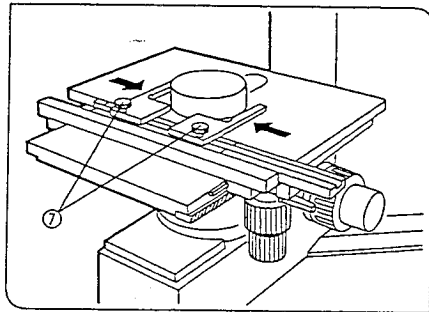

Fig. 40
After loosening the specimen holder clamping screws ⑦, slide the specimen holder apart to place the specimen. Clamp the specimen holder by tightening the clamping screws ⑦. (Fig. 40)